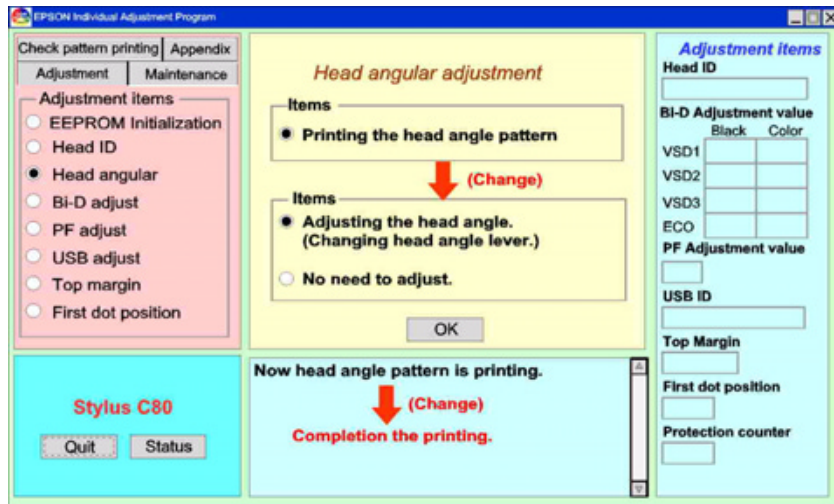

Figure 5-10. "Head Angle" Printing Screen
9. Program screen returns to Figure 5-10, and you can select either "Adjust the head angle" or "No need to adjust". And then continue the another adjustment such as Bi-D and PF adjustment by selecting left option window.